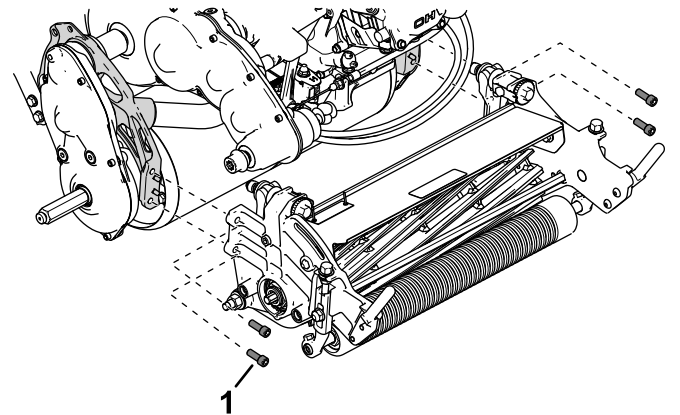

Figure 49
4. Remove the socket-head screws that secure the cutting unit to the frame (Figure 49).